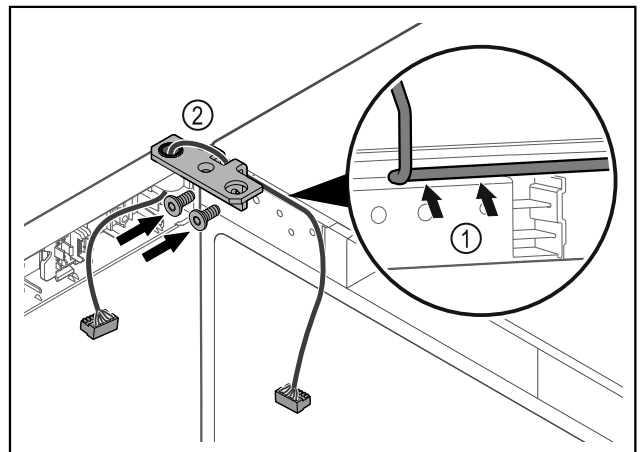

Fig. 53
- ▶ Feed the cable through the recess in the hinge and lay it carefully Fig. 53 (1).
- ▶ Screw on the hinge Fig. 53 (2).